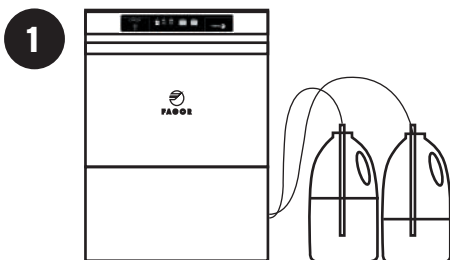

Fig. 7
- On the back of the Dishwasher, locate clear tube marked as "Detergent" and place inside detergent container. (Fig. 7)
- The unmarked clear tube is to be placed inside your rinse container (Fig. 7).